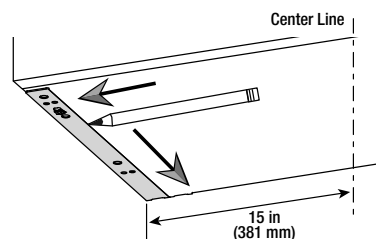

Fig. 16-1
- Align the bracket against the side edge of the 30 in (762 mm) cabinet and the back wall. Draw a line along inner edge of the bracket as shown in fig. 16-1.